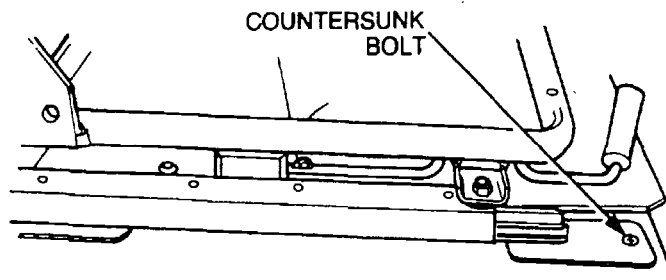

Figure 177 Cabin Seat Removal
- Remove the two countersunk screws at the front of the frame (Figure 177).